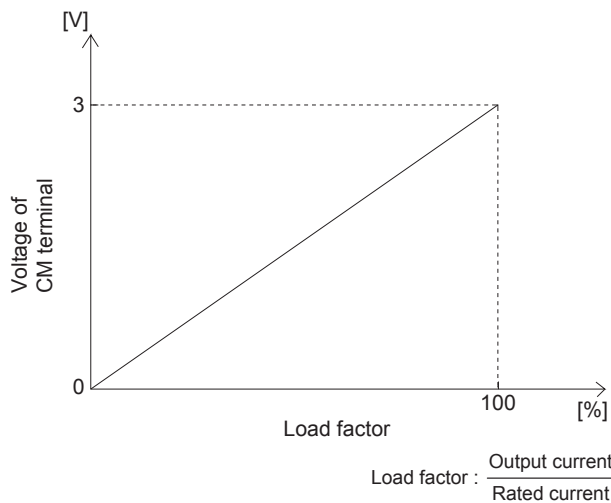

Fig.6.1 Load current conversion graph
■ Fig.6.1 shows the relationship between the voltage of the terminal CM and the output current.
The output current shown in Fig.6.1 should be used only as a guide.